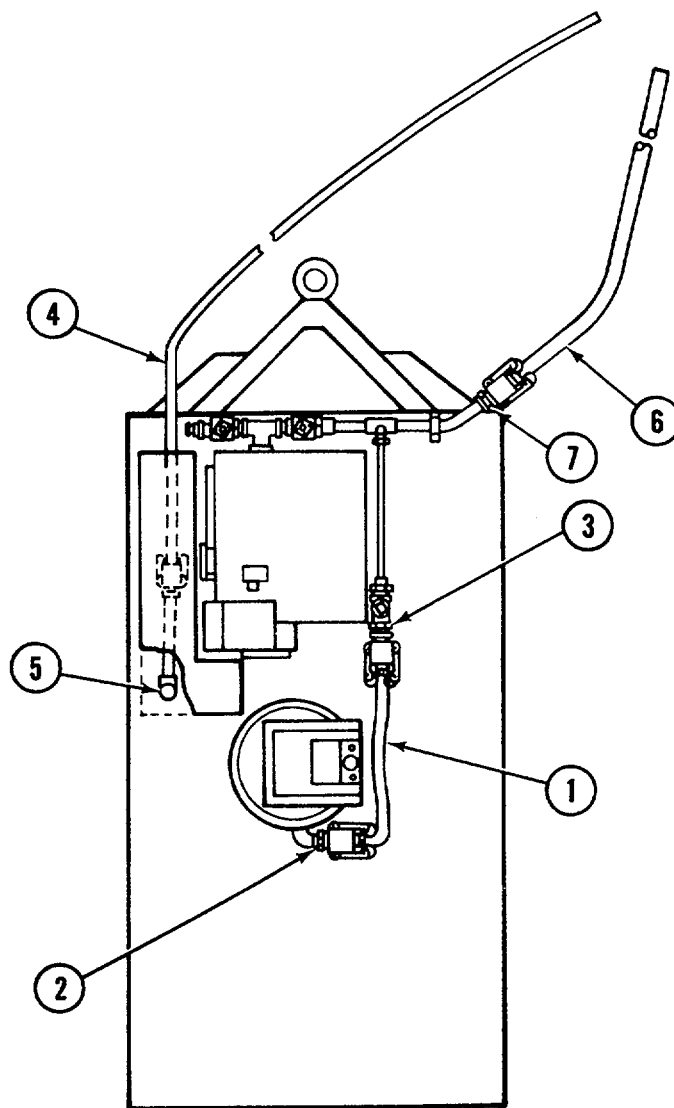

FIGURE 2-11. Drain hose connection diagram.
- (10) Ensure petcock valve (7) on water pump housing is closed. Clockwise rotation closes valve.
- (11) Ensure petcock valve (8) and drain valve (9) on the water heater are closed. Clockwise rotation closes valve.
- (12) Ensure washer inlet hose (10) is connected to washer inlet (11) and to water heater outlet (12).
- (13) Ensure that hose (13) from water heater inlet (6) is connected to piping assembly (14).
- (14) Ensure that drain hose (1, FIG. 2-11) is connected to extractor drain connection (2) and washer drain connection (3).
Ensure that drain hoses (4 and 6, FIG. 2-11) do not touch or cross other water hoses, power cables, exhaust ducts, or fuel lines. Melting/damage can occur causing leaking fuel and water or electrical hazards. Death by electrocution, fire, or explosion could result.